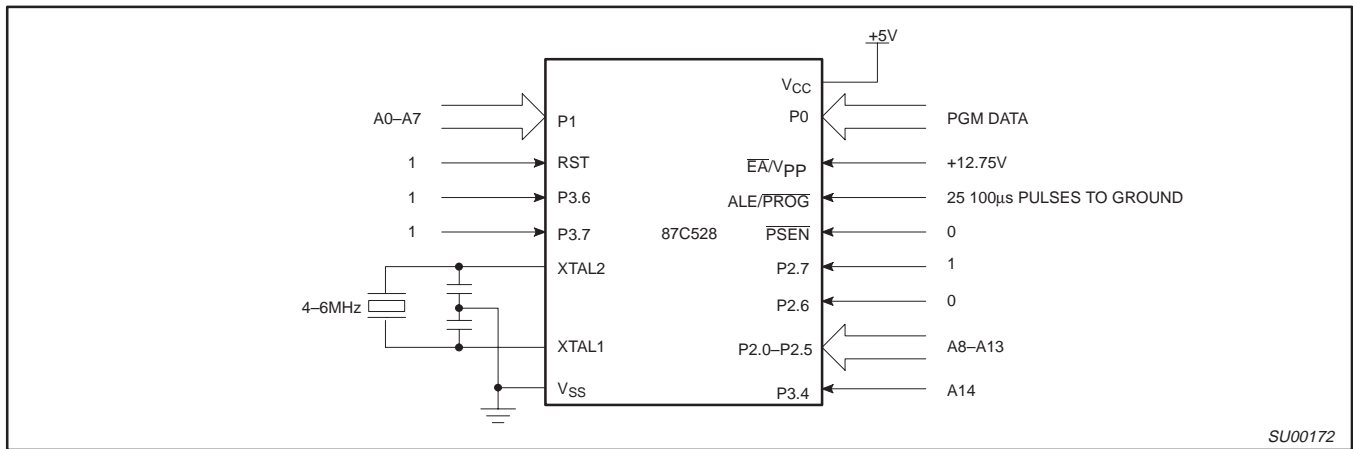
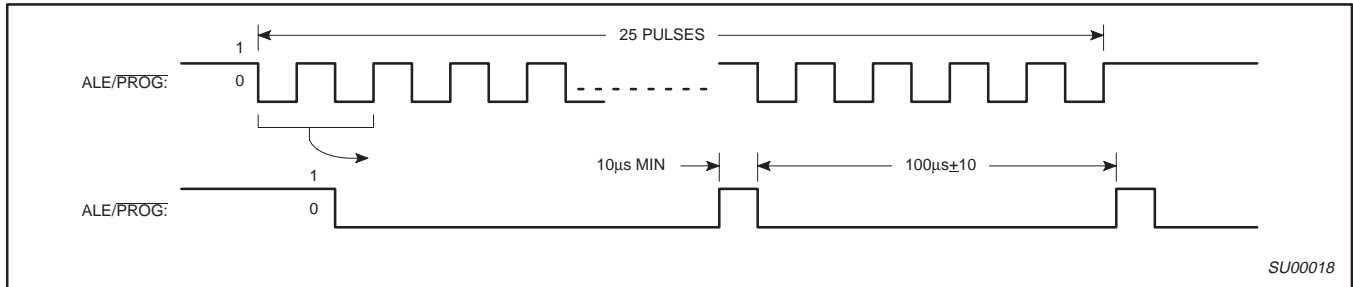
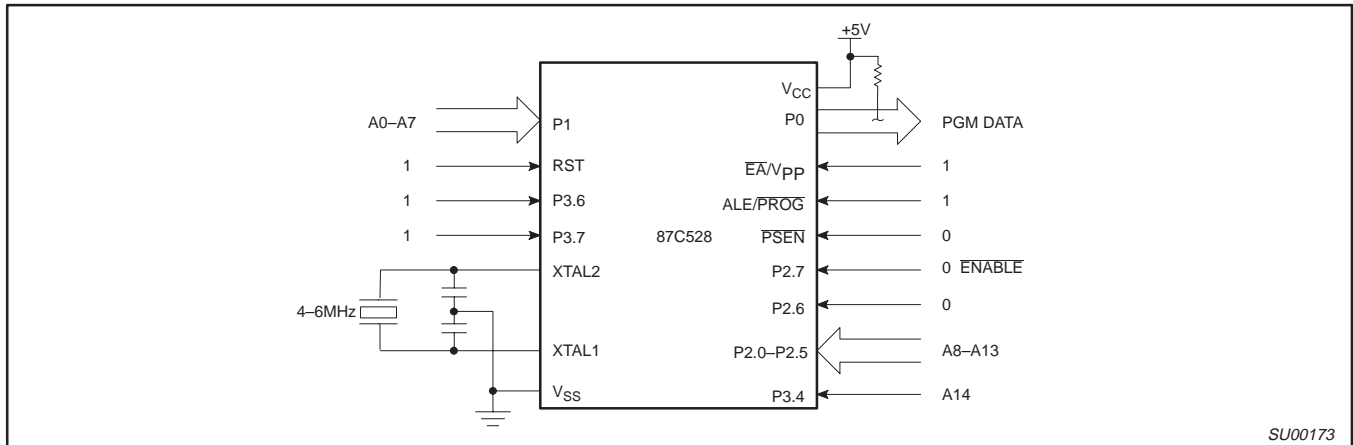

Figure 14. Programming Configuration
Figure 15. PROG Waveform
Figure 16. Program Verification
Table 6 shows the logic levels for reading the signature byte, and for programming the program memory, the encryption table, and the lock bits. The circuit configuration and waveforms for quick-pulse programming are shown in Figures 14 and 15. Figure 16 shows the circuit configuration for normal program memory verification.
The setup for microcontroller quick-pulse programming is shown in Figure 14. Note that the 87C528 is running with a 4 to 6MHz oscillator. The reason the oscillator needs to be running is that the device is executing internal address and program data transfers.
The address of the EPROM location to be programmed is applied to ports 1, 2 and 3, as shown in Figure 14. The code byte to be programmed into that location is applied to port 0. RST, \overline{PSEN} and pins of ports 2 and 3 specified in Table 6 are held at the 'Program Code Data' levels indicated in Table 6. The ALE/PROG is pulsed low 25 times as shown in Figure 15.
If lock bit 2 has not been programmed, the on-chip program memory can be read out for program verification. The address of the program memory locations to be read is applied to ports 1, 2 and 3 as shown in Figure 16. The other pins are held at the 'Verify Code Data' levels indicated in Table 6. The contents of the address location will be emitted on port 0. External pull ups are required on port 0 for this operation.
* FOR PROGRAMMING VERIFICATION SEE FIGURE 14.
FOR VERIFICATION CONDITIONS SEE FIGURE 16.